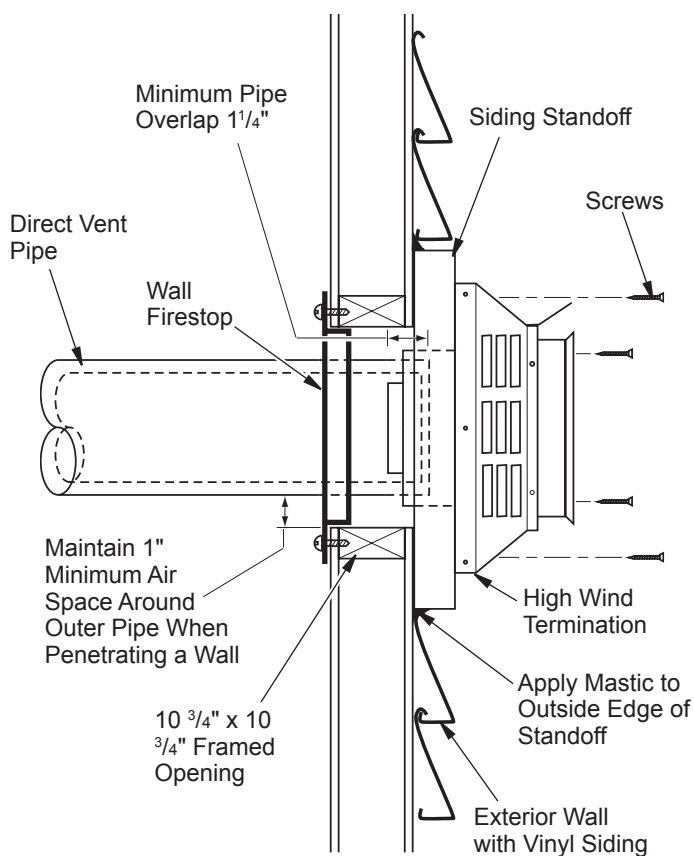

Figure 13 - Typical Horizontal Termination Cap Mounting with Additional Siding Standoff Installed
8. Carefully move fireplace, with vent assembly attached, toward wall and insert vent pipe into horizontal termination. The pipe overlap should be a minimum of 1 1/4" (see Figure 13, page 10)..
9. **Combustible Exterior Wall Only:** Slide wall firestop against interior wall surface and attach with screws provided. See Figure 13 for horizontal termination details.